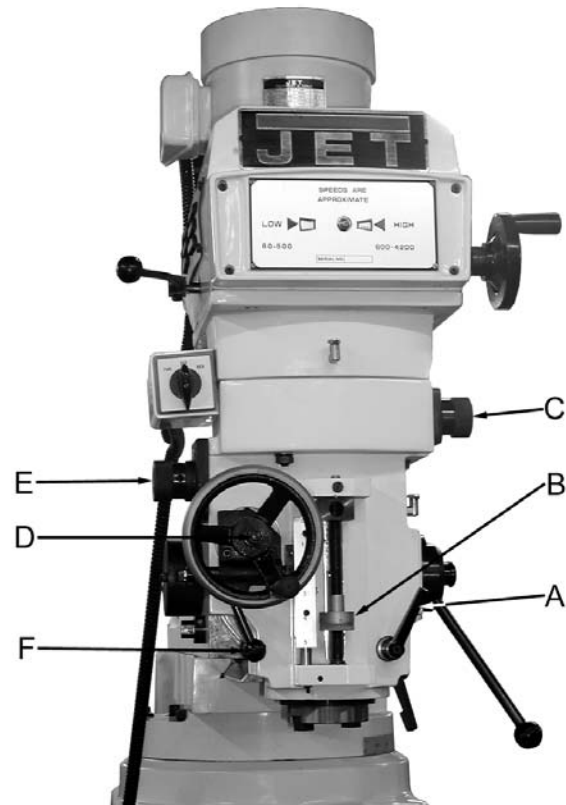

Figure 8
1. Ensure quill lock (A, Fig. 8) is off by rotating counter-clockwise.
2. Set micrometer dial (B, Fig. 8) to desired depth.
3. Engage auto quill feed knob (C, Fig. 8) by turning so pointer indicates towards the rear of the machine.
4. Select feed direction by pulling or pushing the knob (D, Fig. 8) for up/down feed, neutral is in the middle.
5. Select feed rate from feed selector knob (E, Fig. 8) 0.0015", 0.003", and 0.006" per spindle revolution. It is easier to change feed rate while the spindle is turning.
6. Engage feed trip lever (F, Fig. 8) by pulling away from head assembly.